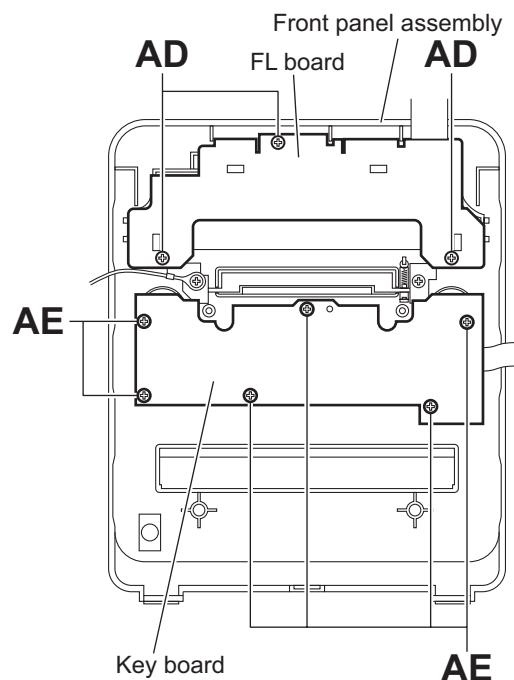

Fig.24
3.1.18 Removing the FL board (See Fig.24)
3.1.19 Removing the key board (See Figs.24 and 25)
- (2) From the inside of the front panel assembly, remove the six screws **AE** attaching the key board. (See Fig.24.)
- (3) Take out the key board from the front panel assembly.